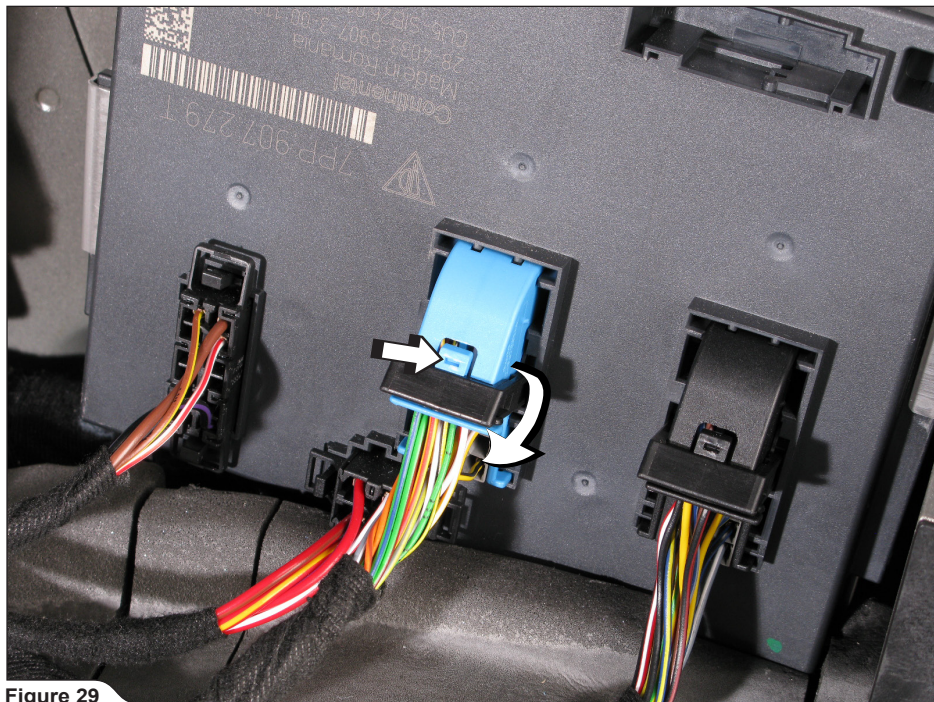

Figure 29
24. Disconnect the blue connector from the ECU unit (**Figure 29**).